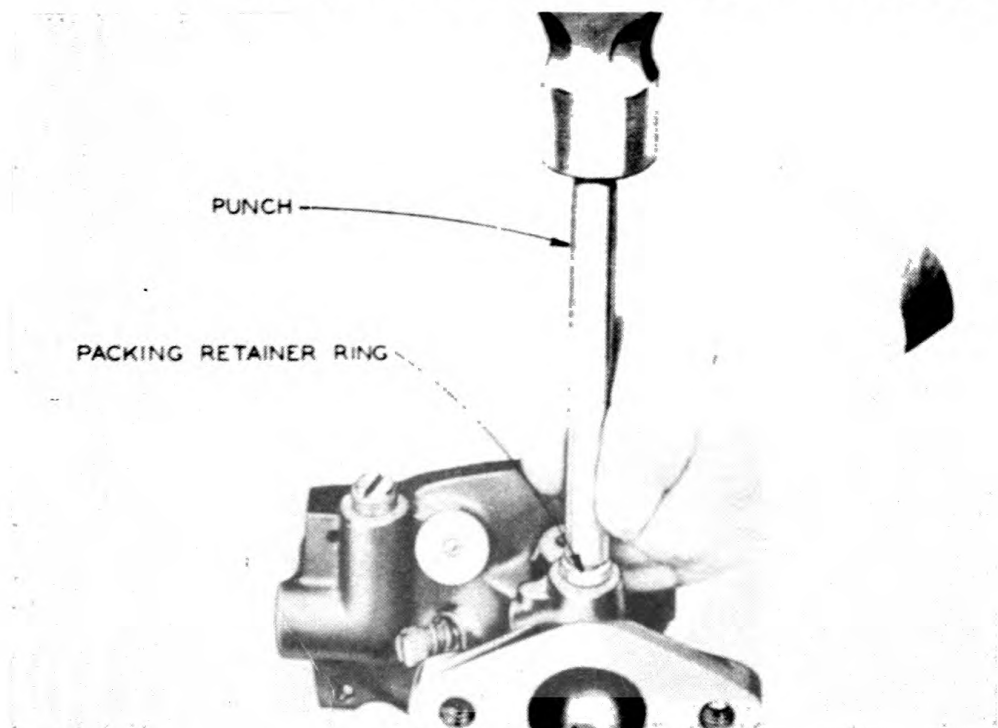

Fig. 113
12. Install packing retainer ring (with packing) in both throttle shaft bosses using a light hammer. (Fig. 113)